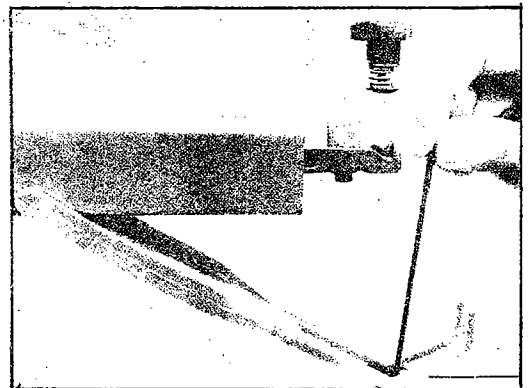

FIGURE 10
2. Remove the blade by pulling blade away from the blade clips. Shown in Figure 10.